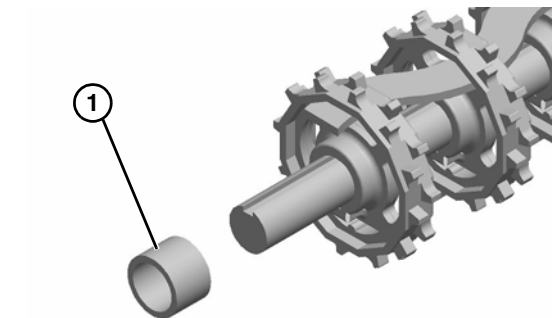

Figure 58
8. Slide off drive sprocket spacer (Figure 58, item 1).